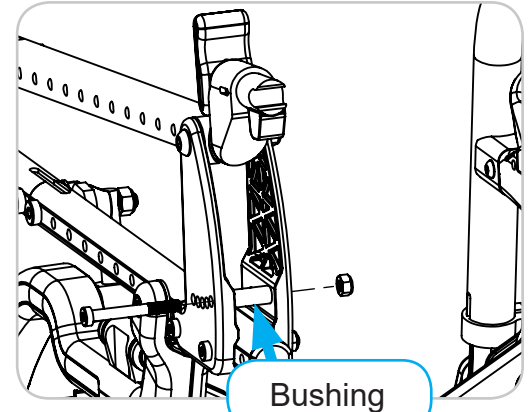

Figure 14
4. Using a 4mm hex wrench and a 10mm wrench, remove button head bolt and nyloc nut. Reference Figure 14.